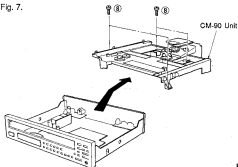

Fig. 7
- a. Remove 4 screws (⑧) as shown in Fig. 7.
- b. Take out the CM-90 Unit out slowly as shown in Fig. 7.